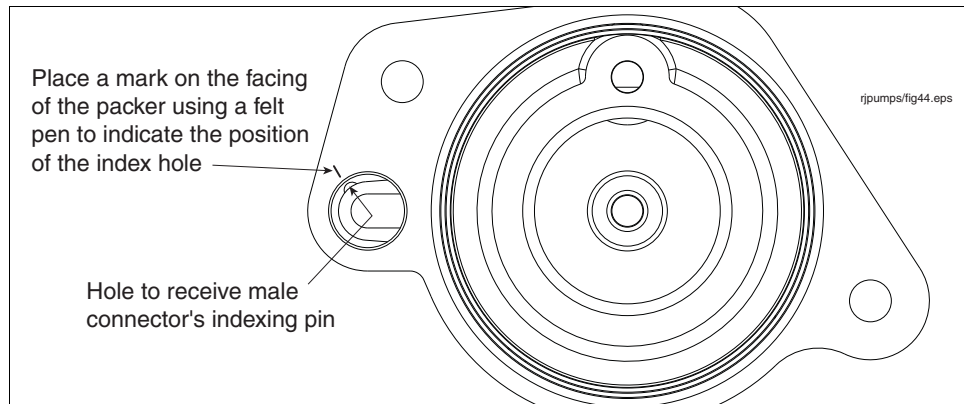

Figure 40. Male connector index hole in base of socket
6. Place a mark on the facing of the Packer using a felt pen to indicate the position of the index hole (see Figure 40).
11. The indexing pin on the back of the connector must seat in the index hole in the base of the male connector's socket (see Figure 40) for the connector to be correctly oriented relative to the female connector.